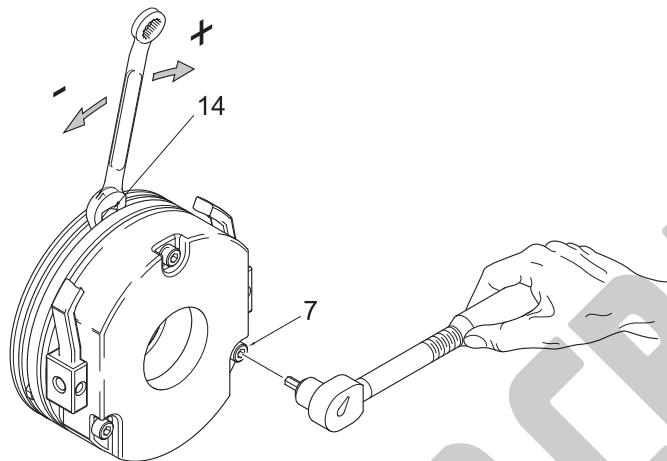

Figure 52 – Hoist Brake Air Gap (Adjustment)
Where adjustment is required, slacken the assembly screws (7). Adjust the air gap by turning the adjustment tubes (14) until the nominal air gap 'a' is reached (see Figure 52).
- If the air gap is too large, screw the three adjustment tubes (14) into the stator. If the air gap is too small, screw the adjustment tubes out of the stator.